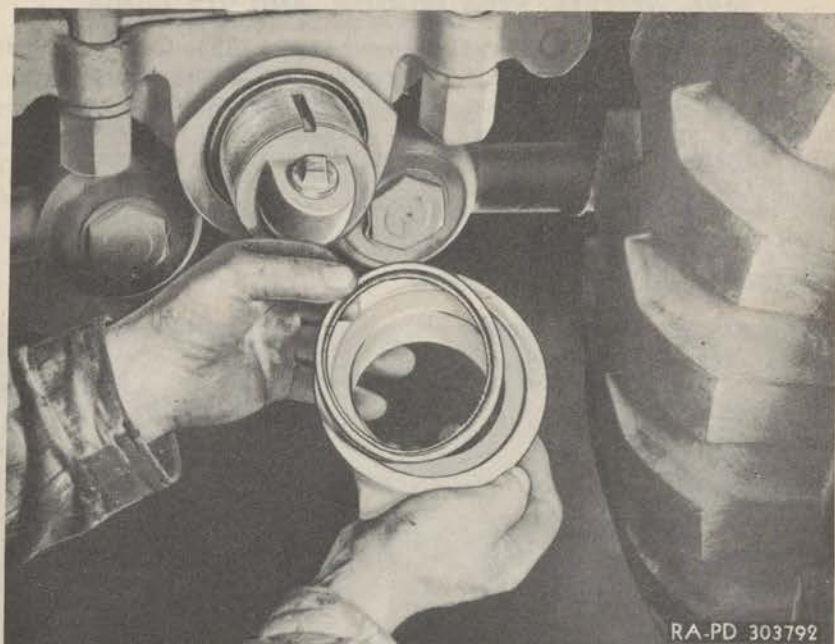

Figure 154—Installing Spring Seat Cap and Gasket
(6) **INSTALL SPRING SEAT CAP** (figs. 154 and 155). Cement a new cork oil seal into the recess in the spring seat cap. Then install the cap, tightening it against the spring seat as close as possible but not tight enough to bind. Install the lock plate in the groove in the spring seat cap, engaging it at the same time with a slot in the rocker beam tube. Install the clamp screw through the holes in the spring seat cap and the lock plate. Install the nut and lock washer and tighten securely.